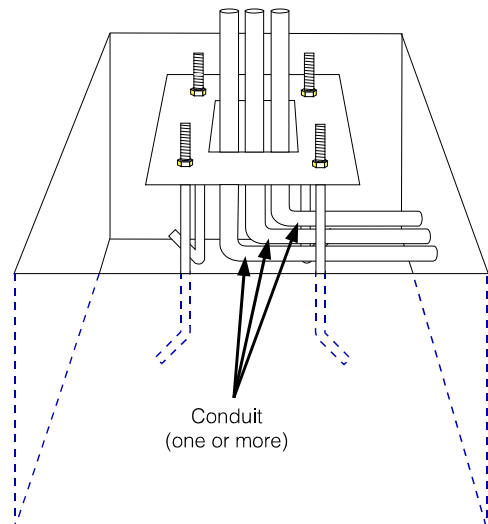

Figure 4. template, anchor bolt and conduit positions in hole
- Route the conduit (one or more) so it/they will extend through the center of the hole, and upward approximately 6 inches through the center of the template as shown in Figure 4.